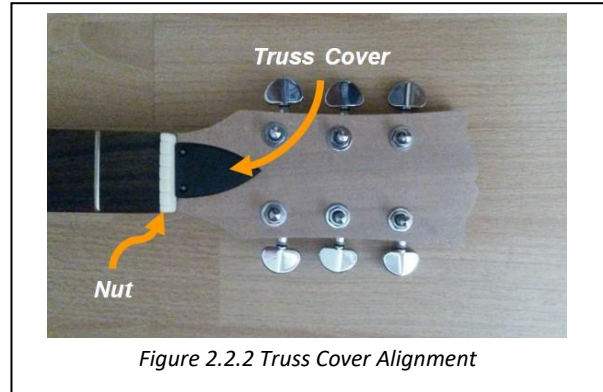

Figure 2.2.2 Truss Cover Alignment
| 2.2.2 | Truss access cover (Figure 2.2.2) | - 3 - |
2.2.2 Truss access cover (Figure 2.2.2)